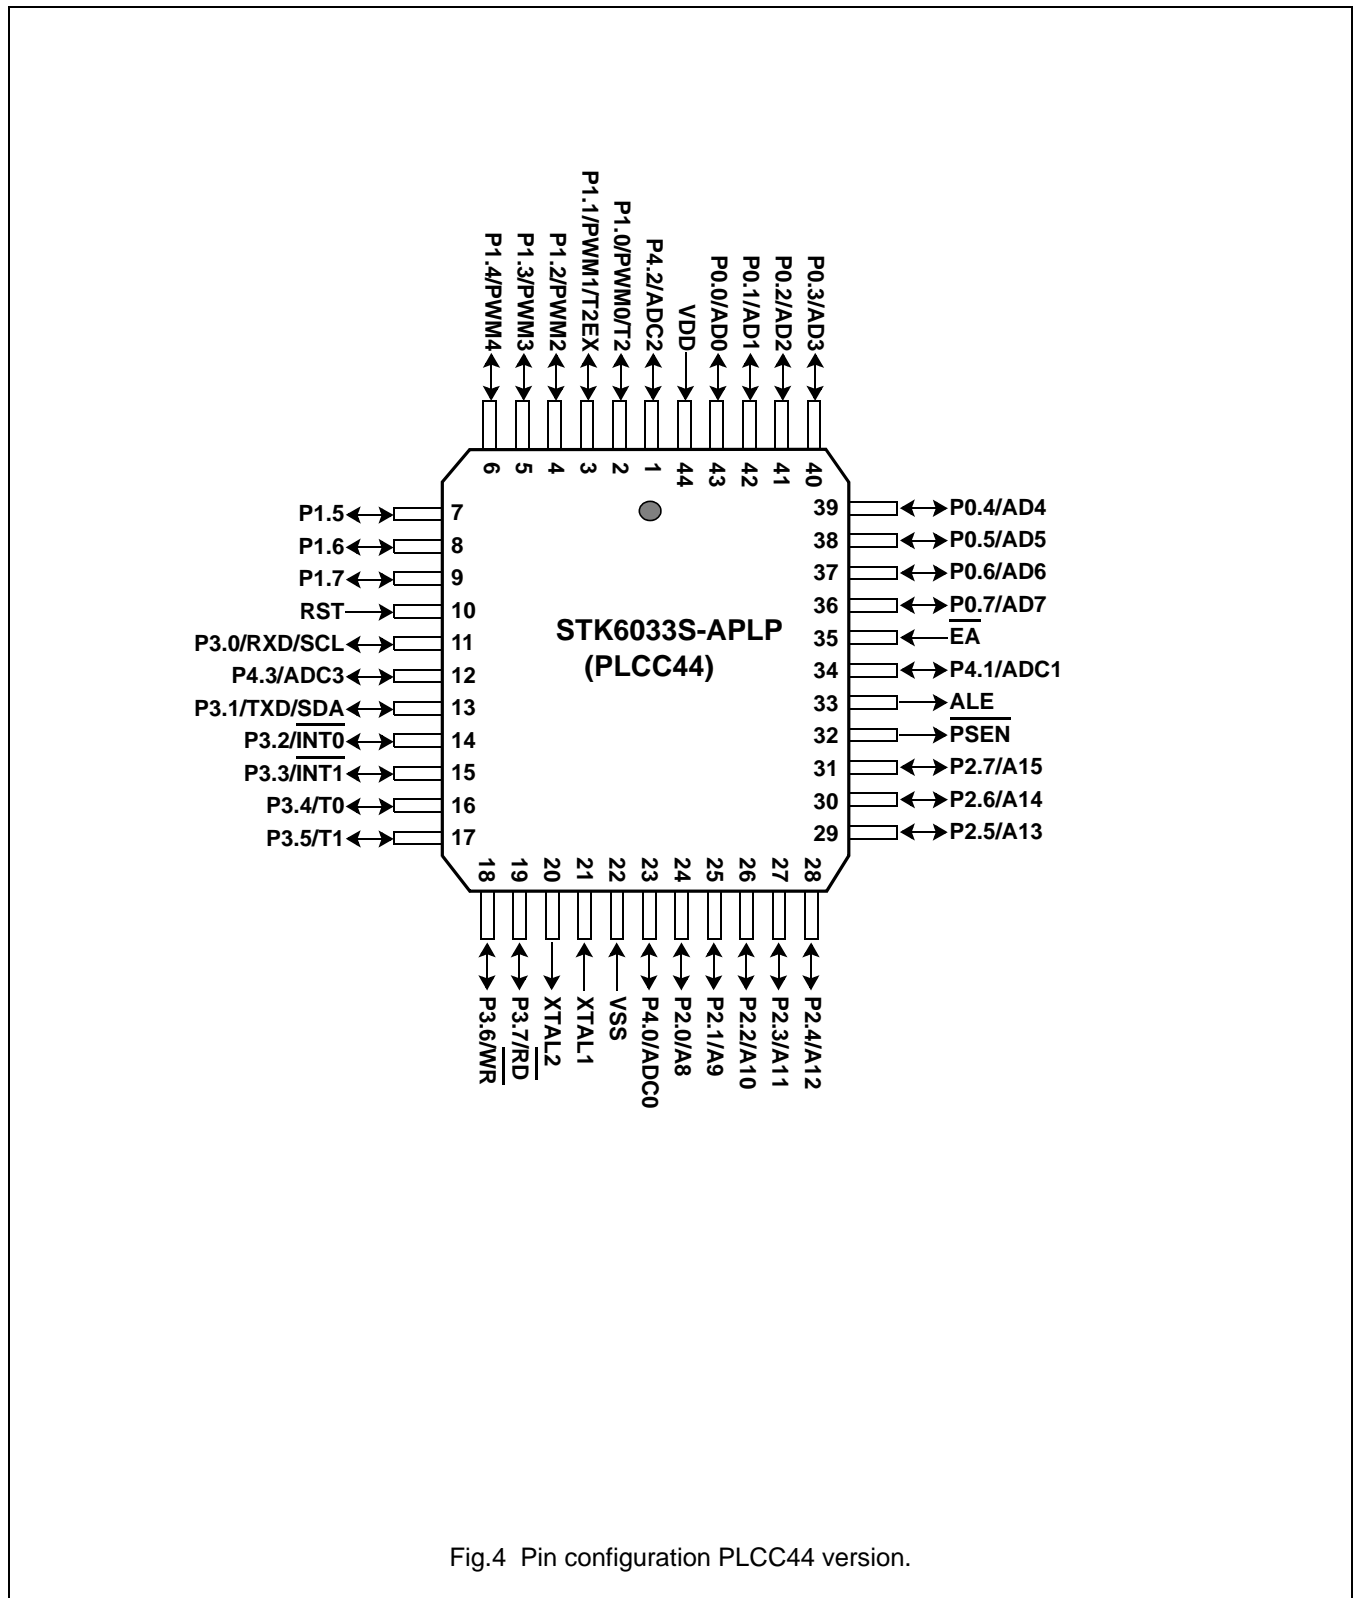

Fig.4 Pin configuration PLCC44 version.
- Figure 4** Pin configuration PLCC44 version.... Page 8